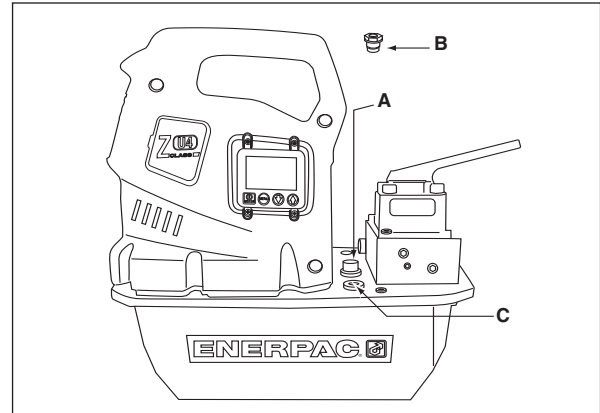
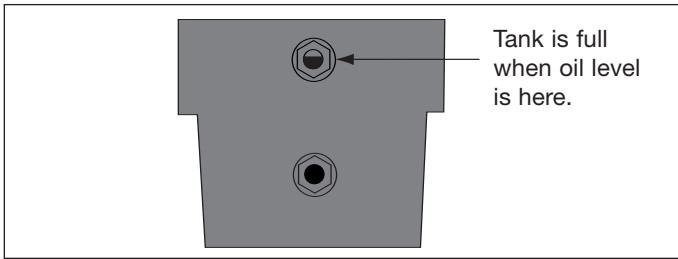

Figure 2, ZU4 Breather Installation
Figure 4
4.1 Reservoir Breather Cap (See Figure 2)
Check the oil level of the pump prior to start-up, if necessary add oil by removing the SAE #10 plug from the cover plate (see Fig. 2). The reservoir is full when the oil level reaches the top of the sight glass. (Fig. 4).